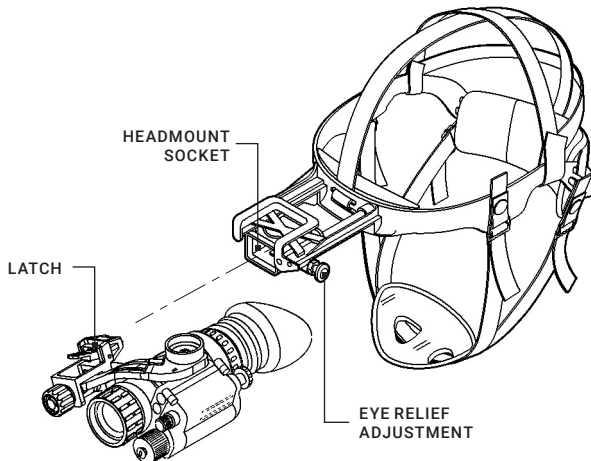

FIGURE 2-14. HEADMOUNT/HELMET MOUNT ADAPTER OPERATION
3. Align the latch of the head mount/helmet mount to the head mount socket (Figure 2-14). Hold the latch lever down while installing the monocular into the head mount socket. Release the latch when the monocular is fully engaged in the socket.
4. To set your eye relief, press the eye relief adjustment button (Figure 2-14). Move the monocular back towards your non-dominant eye until the eyecup is comfortably sealed around your eye.